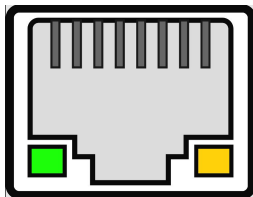

Fig. 14
2. Connect the cable to the ethernet ports on both devices(see Fig. 14).